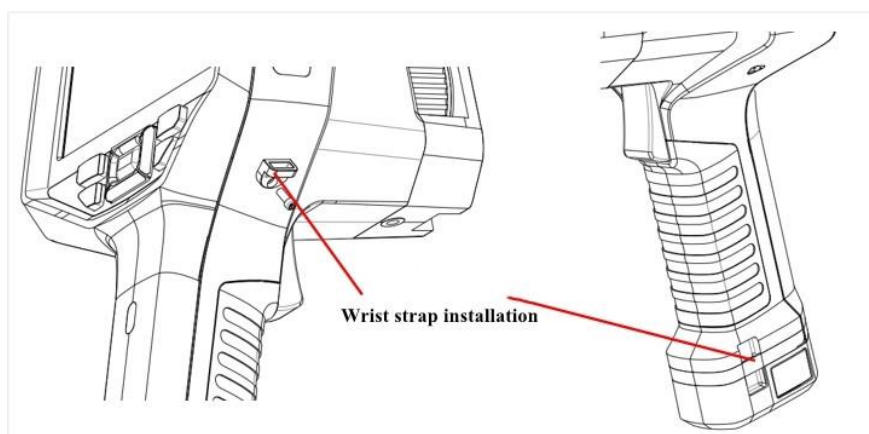

Figure 4.2 Wrist strap installation diagram
(3) Switching device
(4) Wrist strap installation
- Wrist band installation location, as shown in the figure will respectively installed on both sides of wrist strap on this location (as shown in figure 4.2).